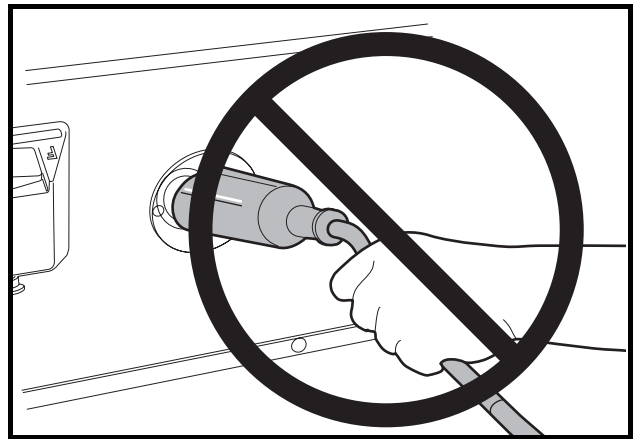

Figure 23 Incorrect Insertion of Charger DC Plug
- Do not pull on the DC cord (Figure 23, Page 39). Do not twist, rock or bend the plug. To disconnect the charger plug from the vehicle receptacle, grasp the plug by the handle and pull the plug straight out of the receptacle.